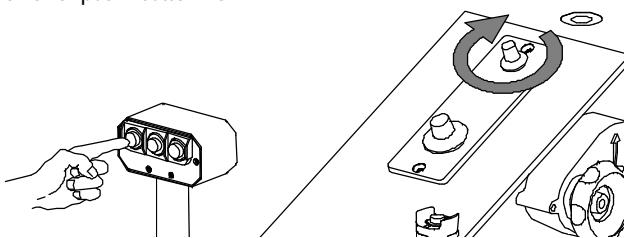

Fig. 12
- c) On the left handle there is a push-button box with three push-buttons: the No. 1, the No. 2 and the No. 3; these act as power selectors and the operator has not to adjust the power each time he changes the cutting-die size. The push-button no. 1 (Fig. 12), on the left, is used to cut soft materials by means of tools with a small linear development. It is possible to gradually increase its value by means of the potentiometer shown in Fig. 12 till nearly reaching the power of push-button no. 2.